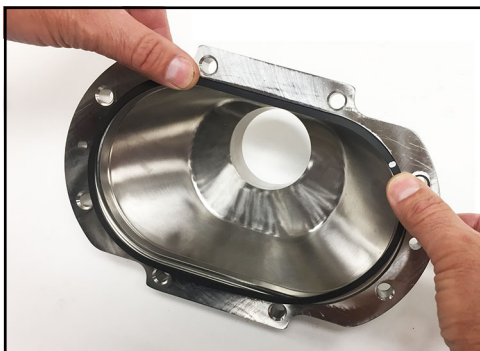

Figure 130 - Install cover gasket
- Install the cover gasket, flat side facing up, into the groove in the cover. (On the 220-UTS (not pictured), this gasket is installed in the groove on the body, not on the cover) as shown in Figure 130.